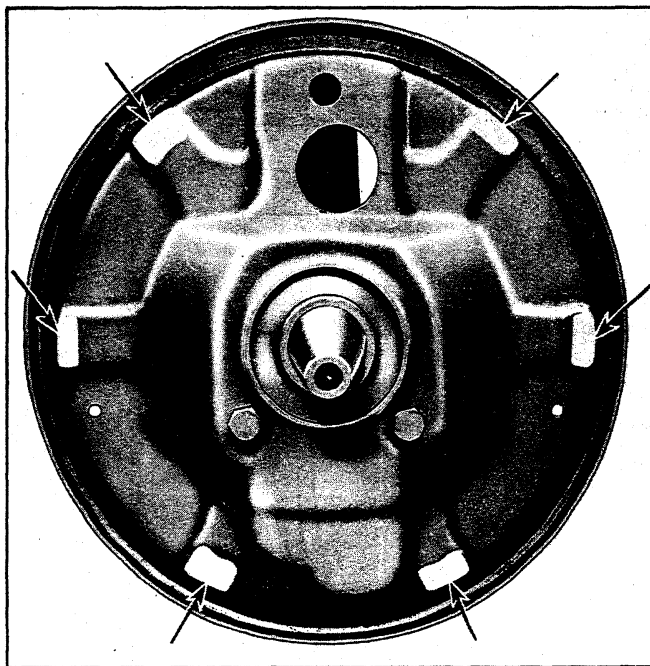

Fig. 29—Backing Plate Contact Surfaces
5. Check all brake flange plate attaching bolts to make sure that they are tight. Clean all rust and dirt from shoe contact faces on flange plate (fig. 29), using fine emery cloth.
14. Pry shoes away from backing plate and lubricate shoe contact surfaces with a thin coating of brake lube (fig. 29).